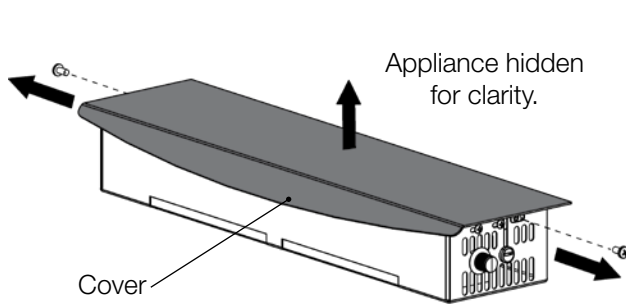

Fig. 6-5
- Remove the 2 screws securing the cover to the blower housing (**Fig. 6-5**). Set the cover and screws aside.